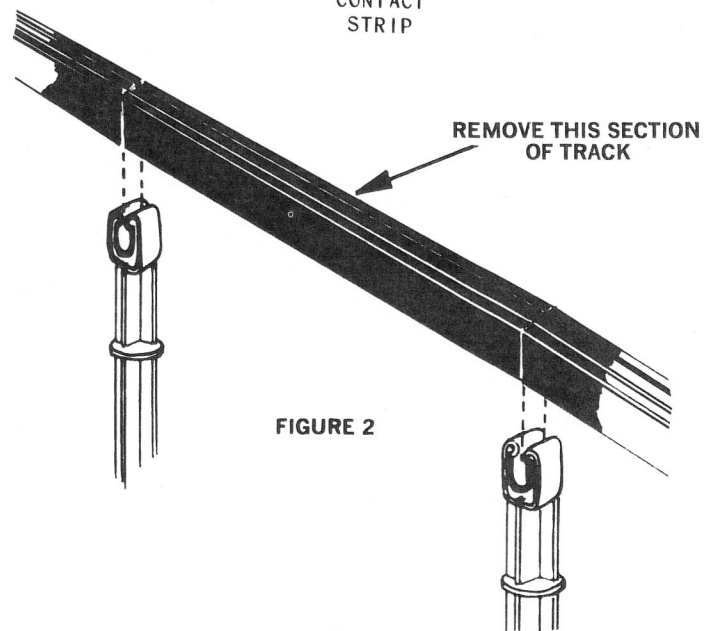

FIGURE 2
1. Remove one section of track as shown in Fig. 2.
1. Remove a section of straight track as shown in Fig. 2.